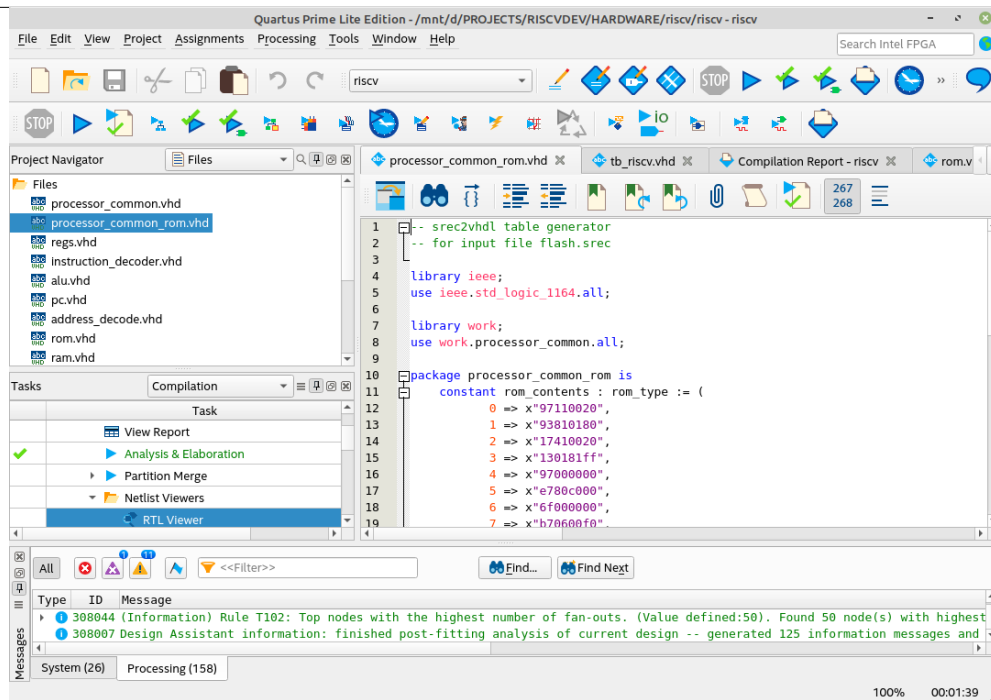

Figure 8: Image of the Quartus project (1).
- Now start the compilation of the VHDL code in Quartus Prime Lite and program the compiled file. This file has the extension `.sof`. See Figures 8 to 10.